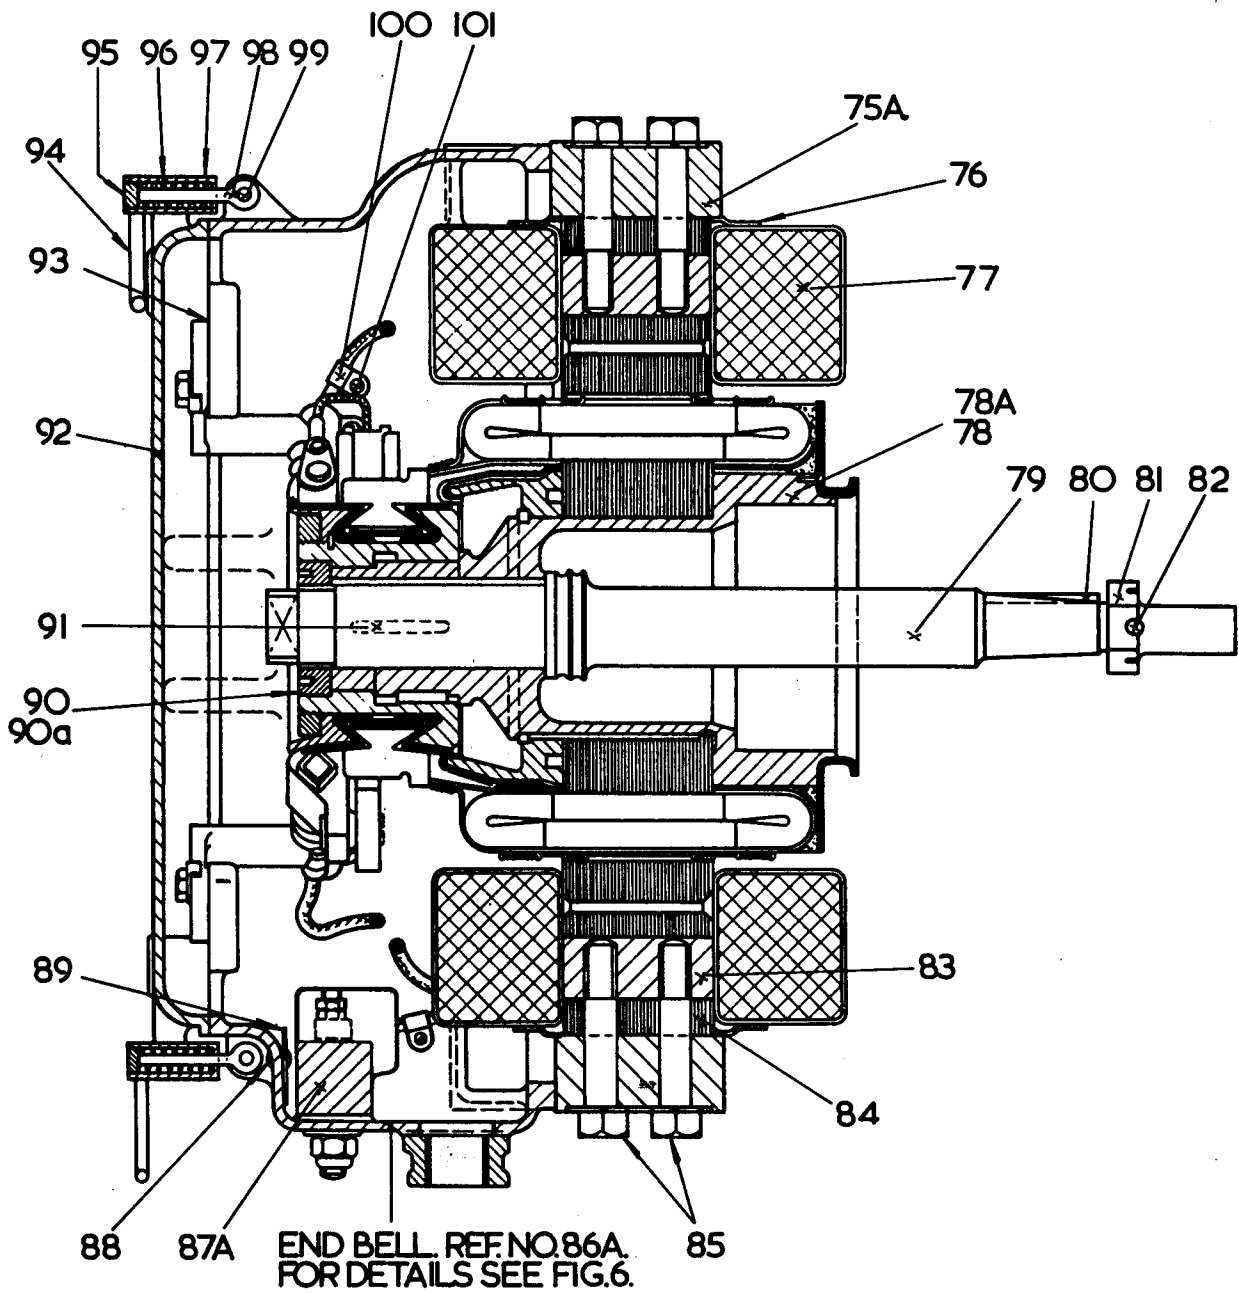

FIG. 5. MOTOR - SECTIONAL VIEW.
3. Remove the sharp edges of the key 91 (Fig.5) and file one end to form a "lead" when entering the armature spider.
5. Place key 91 (Fig.5.) in keyway of shaft with the filed lead uppermost and at the commutator end of the keyway.
9. Refit armature nut 90 (Fig.5) and tighten fully, it must then be locked with the set screw.